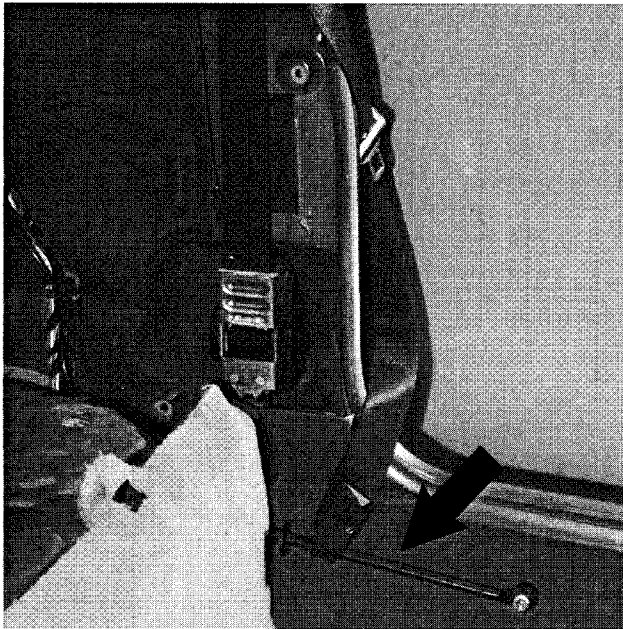

Fig. 4. Two-door seat belt anchor bar (arrow).
2. On 2-door models: Remove seat belt anchor bar from rear of door sill. See Fig. 4.